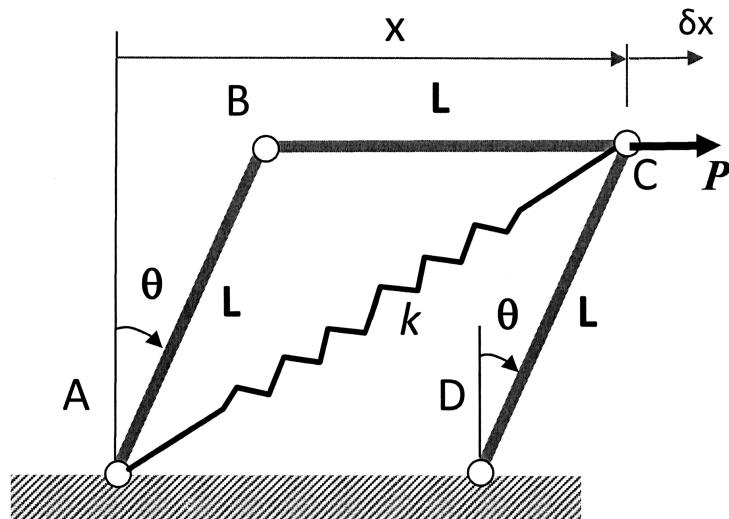

Figure 1
1. This paper contains **FOUR (4)** questions and comprises **SEVEN (7)** pages.
- 1(a) A pin-jointed three-bar mechanism carries a horizontal force, P , applied at C, and is in equilibrium with the spring attached as shown in Figure 1. The rigid bars each have a length of L . The rigid members AB and DC, has an angle, θ , relative to the vertical plane. The spring has a linear spring constant of k . When the load, P , is removed, the spring will return the mechanism back to its initial position where both members AB and DC are in the vertical position where $\theta = 0^\circ$.